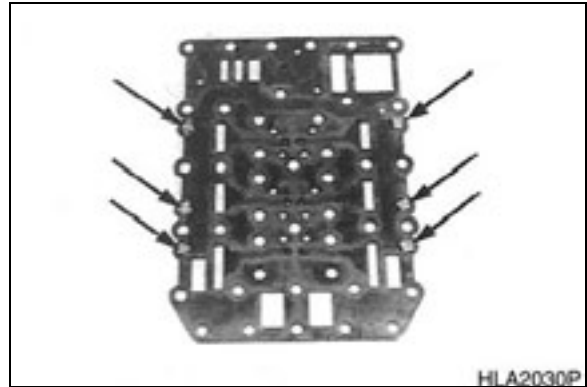

Figure 81
- A. Insert screens (6x) flash -mounted into bore of intermediate plate, see Figure 81.